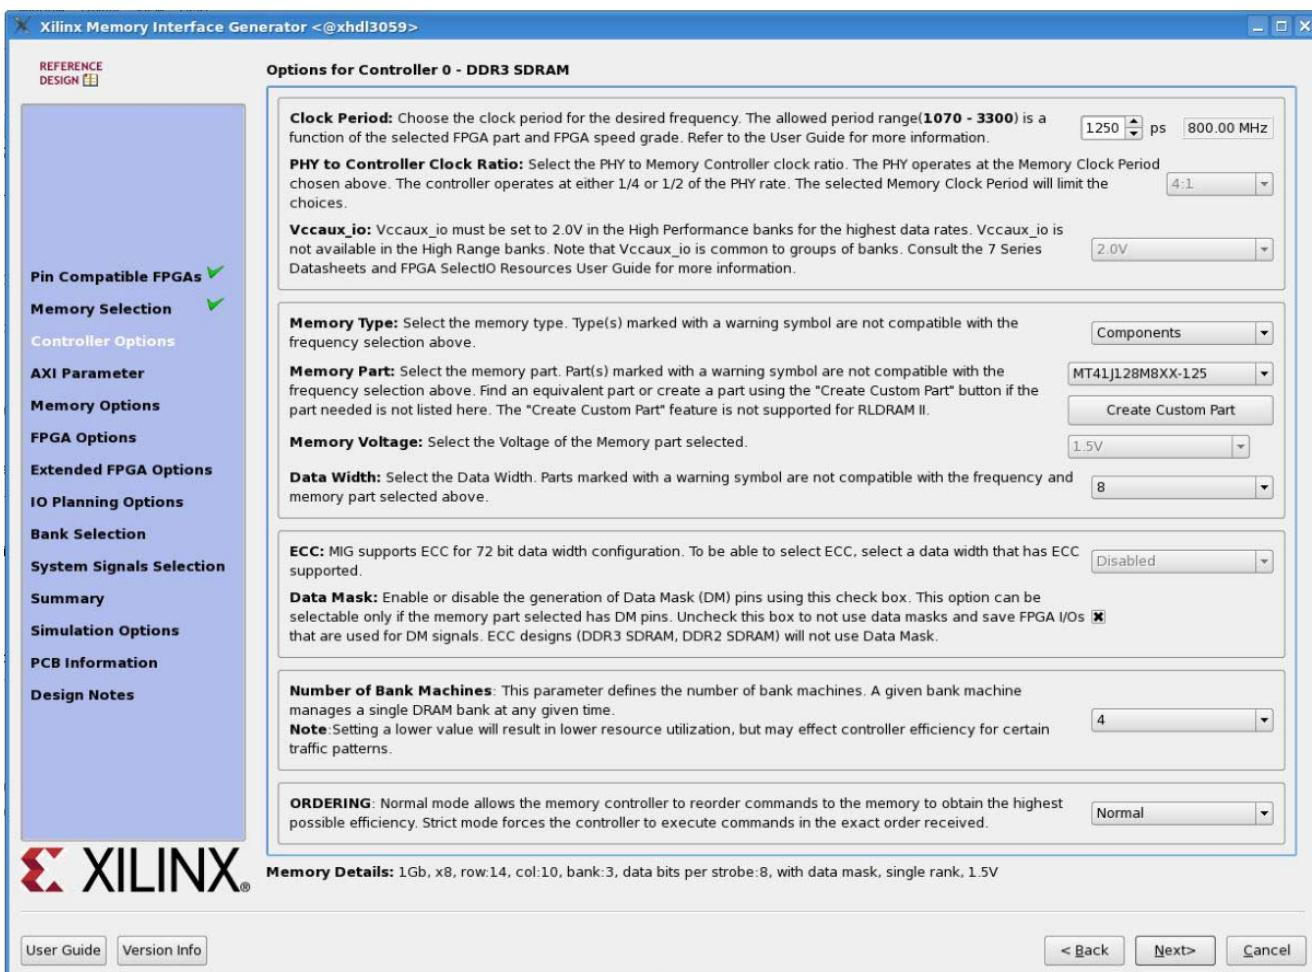

Figure 1-17: Controller Options Page
This page shows the various controller options that can be selected (Figure 1-17).
- **Memory Details** – The bottom of the **Controller Options** page (Figure 1-17) displays the details for the selected memory configuration (Figure 1-18).